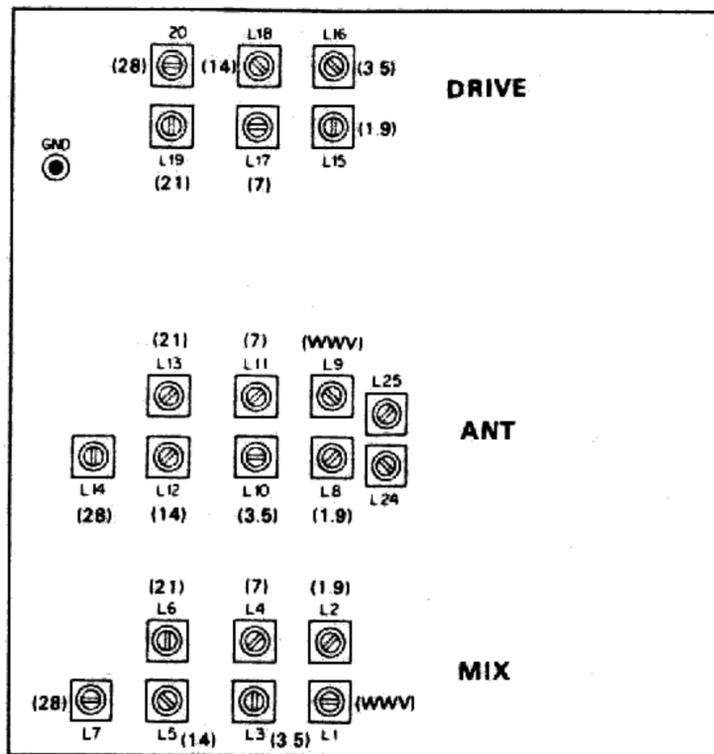
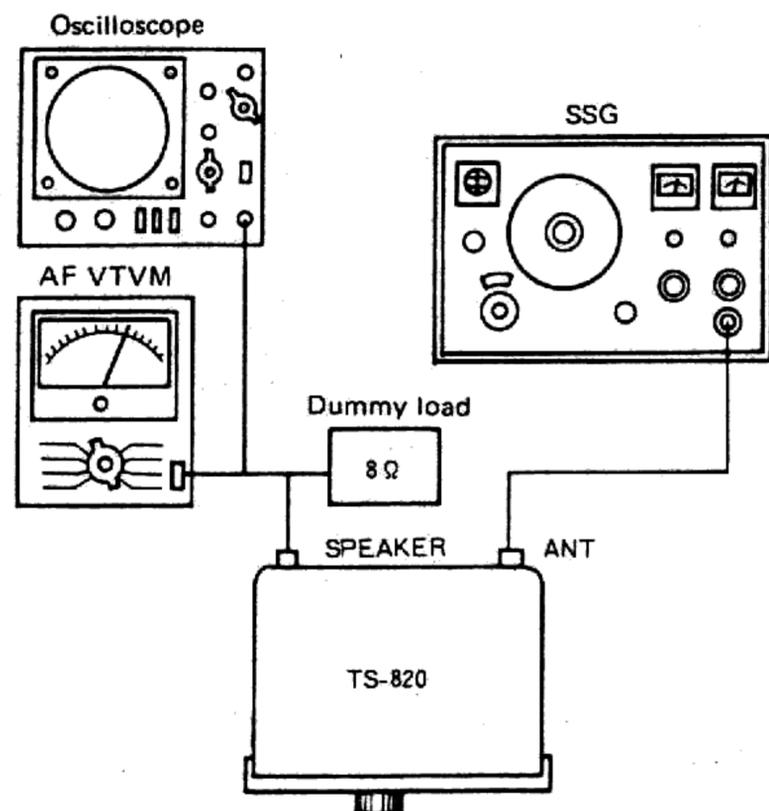

Fig. 23 Coil pack unit
Fig. 26 Adjustment of IF trap coil
Apply SSG output (or marker signal) at 60 dB to the antenna terminal and adjust the coil pack unit (X44-1140-00) in the following procedure of bands for maximum AF output (S meter reading) and maximum sensitivity. Reduce the SSG output suitably as the sensitivity increases (refer to Table 1, Fig. 23).
1) Make connection as shown in Fig. 26, and adjust receiving sensitivity at maximum. Then, while applying a signal of 8830 kHz at approx. 100 dB from SSG, adjust L24 and L25 in the coil pack unit (X44-1140-00) alternately and repeat the same procedure two or three times. Until S meter reading becomes minimum. When S meter pointer does not deflect, make adjustment until AF output becomes minimum (refer to Fig. 23 "Coil pack unit").